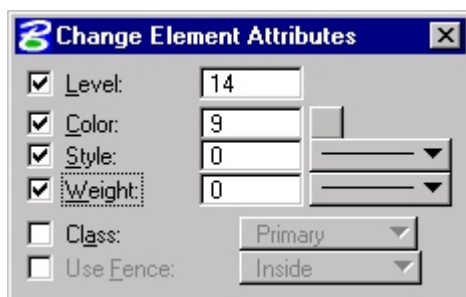

Figure 5 –
3. Select the types of attributes to change (Level, Color, Style, Weight and Class) from the Change Element Attributes dialog box (Figure 5)